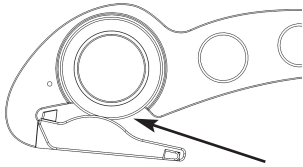

Fig. 2
2. Make sure that the extendable knife (6) will automatically retract to its safe position before cutting. **Applies to Model 06-601 only.**
4. As an alternative method to section 3, extend the knife by pressing at its rear end and then cut a slit in the material. Make sure that the extendable knife (6) is automatically retracted before proceeding with the normal cutting procedure. **Applies to Model 06-601 only.**
5. The circular cutting blade (3) can be rotated by first loosening the knurled screw (1) approximately 1/4 turn. **Do not touch the edge of the blade while rotating - it is very sharp!** Fully tighten the knurled screw (1).
**NOTE:** For the version with the slitting function, loosen the knurled nut (8) slightly before loosening the knurled screw (1) allowing the blade to rotate. When finished, tighten the knurled nut (8) after tightening the knurled screw.
**Rotate the circular cutting blade (3) regularly** in order to make sure the cutting edge will be sharp prior to the next cutting. Replace the circular cutting blade (3) when excessive effort is needed for cutting, if the blade gets damaged, or when it has been rotated one full turn. The current replacement blades have sectors clearly marked for ease of adjustment.
6. In order to initiate a cut at a heavy seam, use the area of the blade shown in fig. 2.